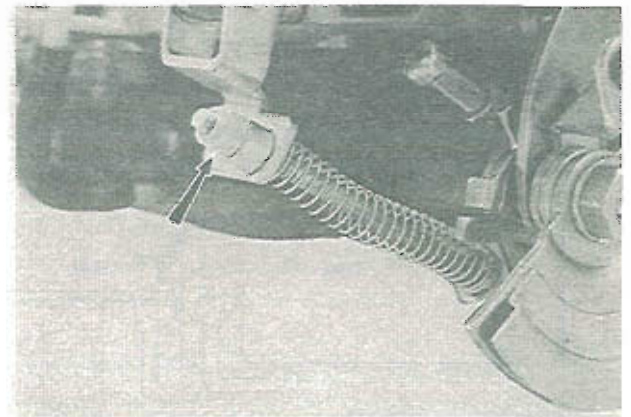

Fig. 4-18 Adjusting accelerator pump
7. To adjust it, rotate the lock nut of accelerating pump connecting rod as shown in Fig. 4-18. The amount of discharge increases about 0.06 cc per clockwise turn and decreases the same amount by counter-clockwise turn.